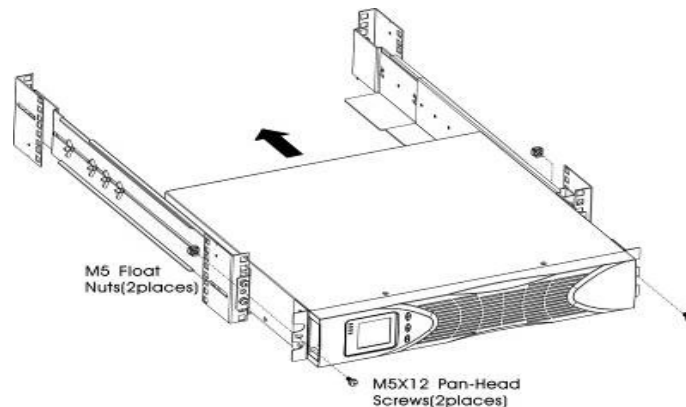

Figure 4 Securing the Front of the Cabinet
- l) Secure the front of the UPS to the rack using one M5×12 pan-head screws and one M5 cage nuts on each side (see Fig. 4). Install the bottom screw on each side through the bottom hole of mounting bracket and the bottom hole of the rail.